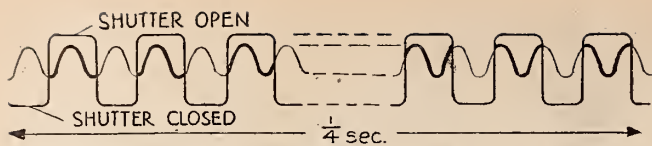

FIGURE 2
Figure 2 gives the explanation. Here we have the shutter opening periods superimposed upon the wave form of the supply. Now, the shutter is open each time for a little over 1/96th second (that is, a quarter of 1/24th), and by following the heavy line it will be seen that the total amount of light reaching the screen in successive shutter openings will vary. Actually, the interaction between the 48-cycle cut-off of the shutter and the 100-cycle variation in the supply will produce a flicker frequency of 2 beats per second. This particular frequency is very difficult to eradicate; all one can do is either to minimize it by fully loading the carbons so that they will no longer cool down so quickly when the current drops (this, of course, is the principle of the modern a.c. arc), or ensure that the shutter opening is exactly 1/100th of a second, when the phasing between shutter and supply will be immaterial.
* England uses the 50-cycle current and the time element used in these diagrams is based on that standard. On the basis of the standard American 60-cycle current, Figure 1 would read 1/60th second and Figure 2 would read 1/5th second.